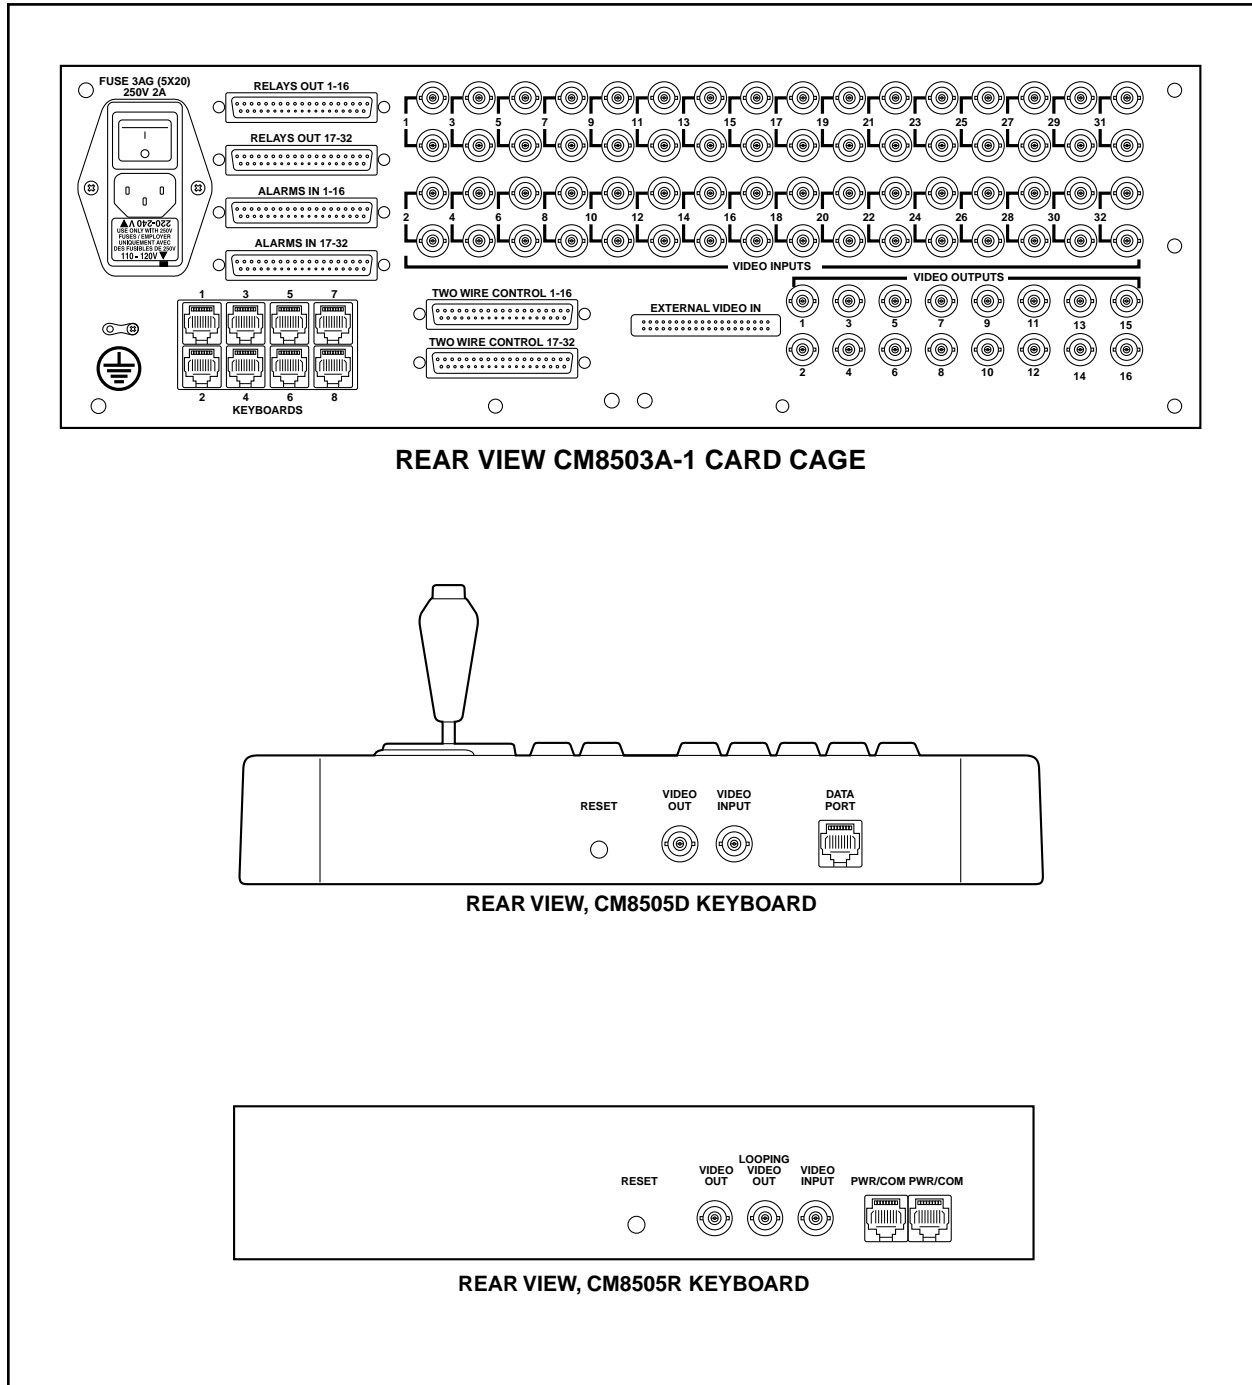

Figure 2A. CM8503-1 Card Cage and CM8505 Keyboard Back Panel Connector Layout
Up to eight (8) independent keyboards may be installed. The backplane of the main card cage has eight (8) ports that correspond to the keyboard inputs (refer to Figure 2A). If the supplied 8-conductor flat cable assembly is used, it only requires that one end be plugged into a port on the CPU and the other into the port on the rear